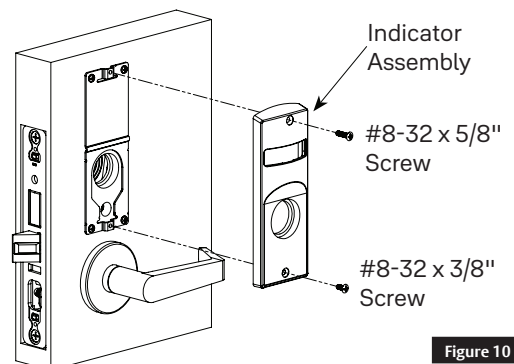

Figure 10
3. Assemble indicator assembly onto mounting plate. (Figure 10)
4. Secure indicator assembly to door with two (2) machine screws.